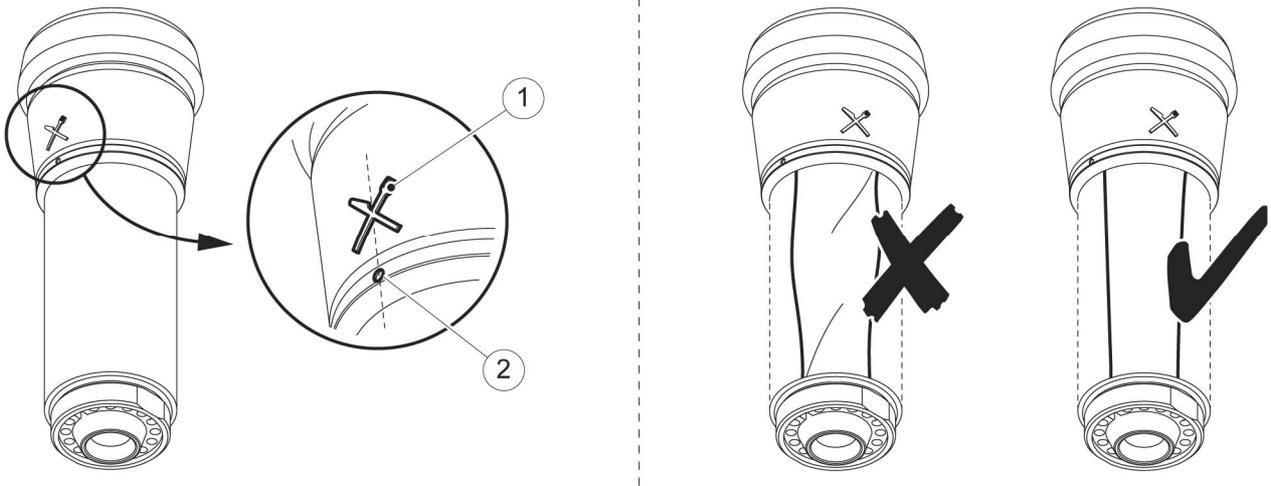

Figure 2: Insert the new teat cup liner in the teat cup sleeve
3. Make sure the mark (fig. 2/1) on the teat cup liner is aligned with the mark (2) on the teat cup sleeve.
5. Make sure the teat cup liner is not twisted (fig. 2/right) in the teat cup sleeve.